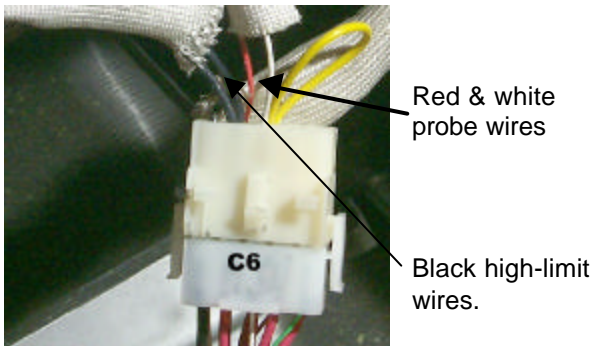

Fig: 10-11
5. Use a pin pusher (Frymaster Part Number 806-4855) to remove the probe wires from the connector. **Mark each wire for re-assembly. Fig: 10-11**
13. Use a pin pusher (Frymaster Part Number 806-4855) to remove the two high-limit wires from wire harness connector C6. For split pot fryers, remove only the wires for the high-limit to be replaced. Mark each wire for re-assembly. **Fig: 10-11**